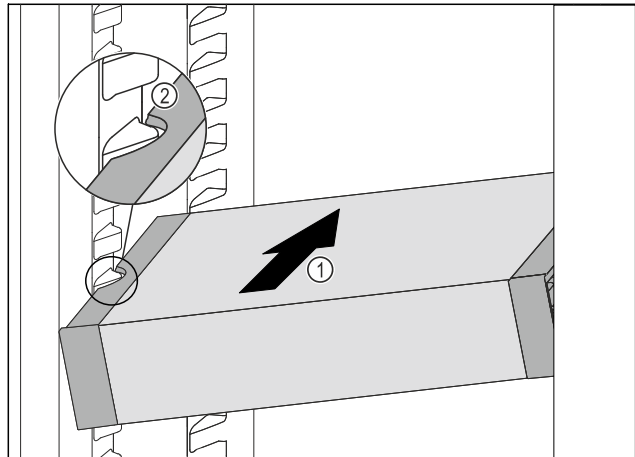

Fig. 126
- ▶ Insert the VarioSafe into the fridge section at an angle Fig. 126 (1) until the recesses in the side Fig. 126 (2) of the VarioSafe are at the level of the support rib in the fridge section.